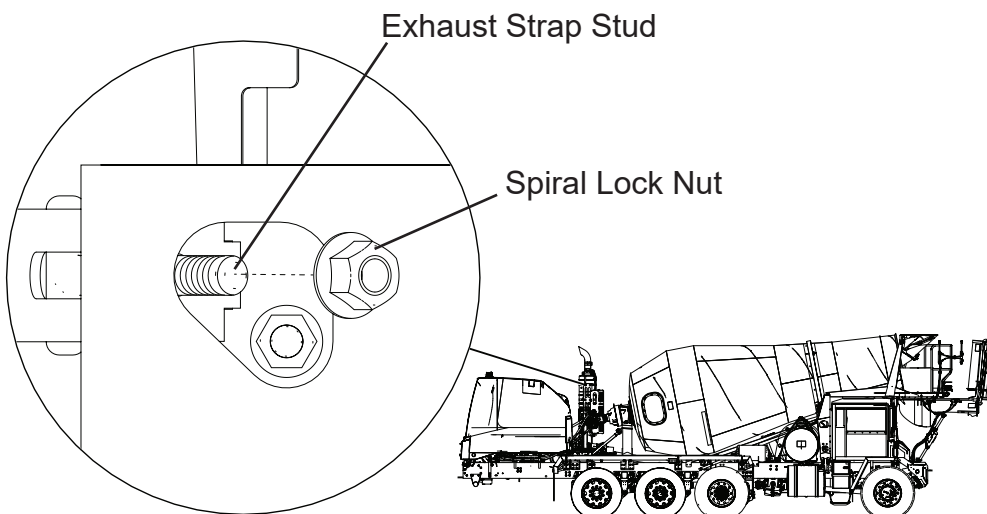

Figure 6
10. Remove spiral lock nuts and exhaust strap from mounting location. See Figure 6. Spiral lock nuts will not be reused.